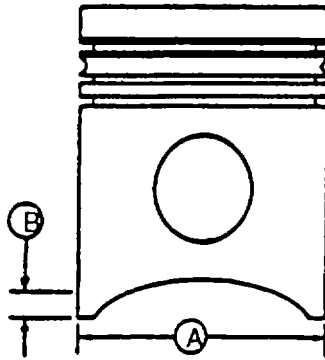

FIGURE 3-152. Measuring Piston Skirt
- t. Measure piston skirt (A, FIGURE 3-152) 90 degrees to piston pin bore and 0.74 inch (19 mm) from bottom of piston (B). Record measurement. OD should be 4.188 to 4.189 inches (106.38 to 106.40 mm)